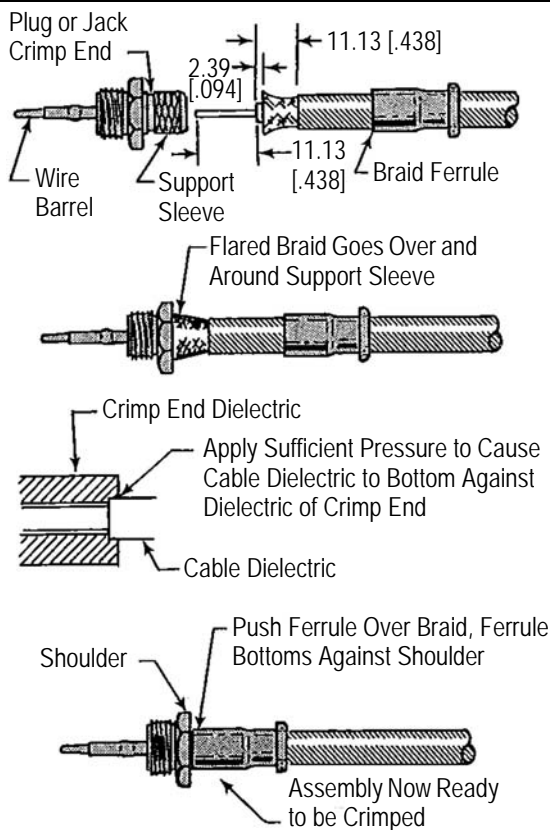

Figure 2
- Slip the ferrule on the cable, then strip the cable and flair braid as shown in Figure 2.
- Push crimp end back under braid so that the braid passes over and around the support sleeve. Apply sufficient pressure to cause the cable dielectric to bottom against the dielectric of the crimp end. See Figure 2. Twist the crimp end slightly to ensure bottoming.
- Slide the ferrule forward and over the braid on the crimp end as far as it will go. Crimp end is now ready to be crimped. See Figure 2.